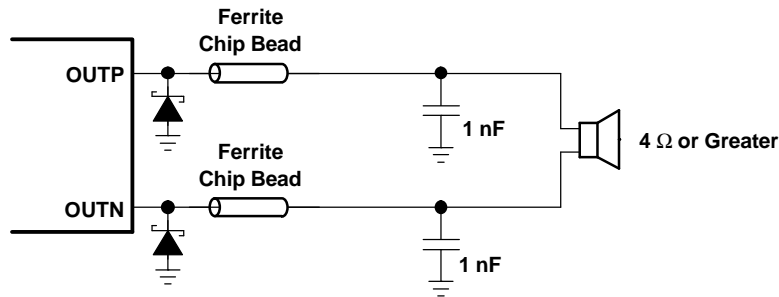
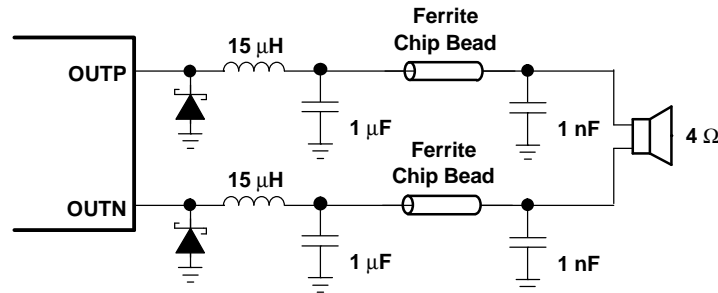
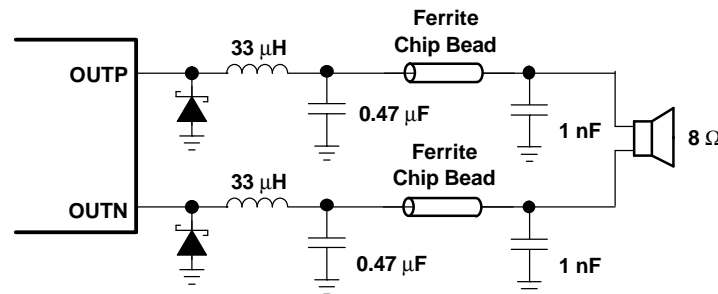

Figure 22. Typical Ferrite Chip Bead Filter (Chip bead example: Fair-Rite 2512067007Y3)
Figure 23. Typical LC Output Filter for 4-Ω Speaker, Cutoff Frequency of 41 kHz
Figure 24. Typical LC Output Filter for 8-Ω Speaker, Cutoff Frequency of 41 kHz
A ferrite bead filter (shown in Figure 22) should be used in order to pass FCC and/or CE radiated emissions specifications and if a frequency sensitive circuit operating higher than 1 MHz is nearby. The ferrite filter reduces EMI around 1 MHz and higher (FCC and CE only test radiated emissions greater than 30 MHz). When selecting a ferrite bead, choose one with high impedance at high frequencies, but very low impedance at low frequencies.
Use an additional LC output filter if there are low frequency (<1 MHz) EMI sensitive circuits and/or there are long wires (greater than 11 inches) from the amplifier to the speaker, as shown in Figure 23 and Figure 24.
- Output filter — The ferrite filter (Figure 22) should be placed as close to the output terminals (pins 19, 20, 25, and 26) as possible for the best EMI performance. The LC filter (Figure 23 and Figure 24) should be placed closest to the output and followed by a ferrite-bead filter. The capacitors used in both the ferrite and LC filters should be grounded to power ground.